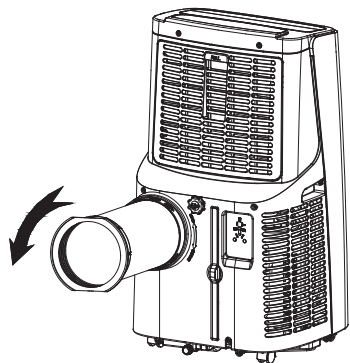

Figure 1
1. Install the heat pipe assembly (as shown in Fig.1)
- Insert the heat pipe assembly (the end of the exhaust joint) into the back panel vent slot (push to the left) and complete the assembly (as shown in figure 1).